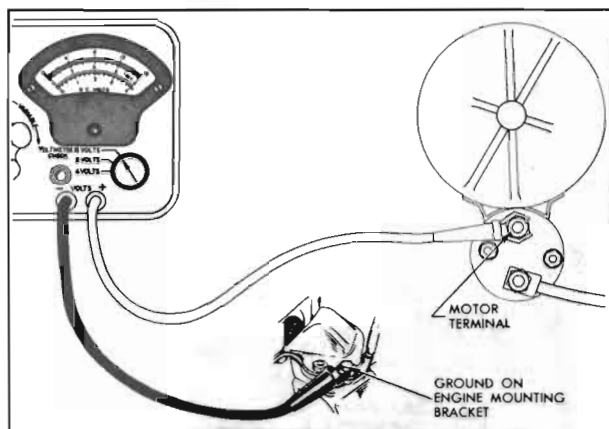

Figure 10-31—Cranking Voltage Test Connections
3. Connect voltmeter positive (+) lead to the motor terminal on solenoid switch; connect voltmeter negative (-) lead to ground on engine. See figure 10-31.